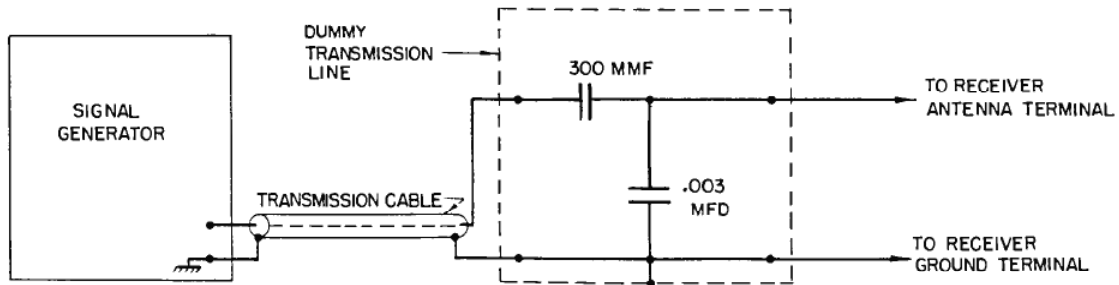

FIG. 7 DUMMY TRANSMISSION LINE CONNECTIONS
- (b) **DUMMY TRANSMISSION LINE:** A 300 mmf. capacitor connected between signal generator output and receiver input; and a 3000 mmf. (.003 mfd.) capacitor shunted from receiver input to chassis. See Fig. 7.
CPLG switch in position 3. Connect the signal generator to the receiver antenna terminal through a 300 mmf. capacitor, and shunt the receiver antenna terminal to chassis through a 3000 mmf. (.003 mfd.) capacitor as shown in Fig. 7. With these exceptions, proceed as for sensitivity test with Standard Dummy Antenna.